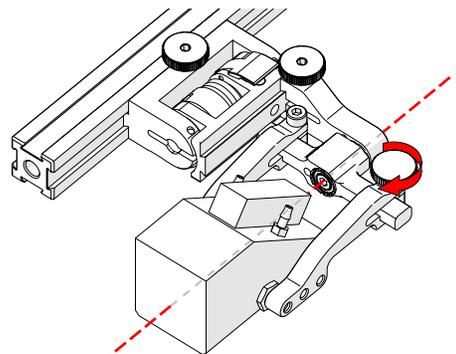

Fig. 154 - Pinch wedge with arm
9. Tighten probe holder arm adjustment knob (Fig. 154).